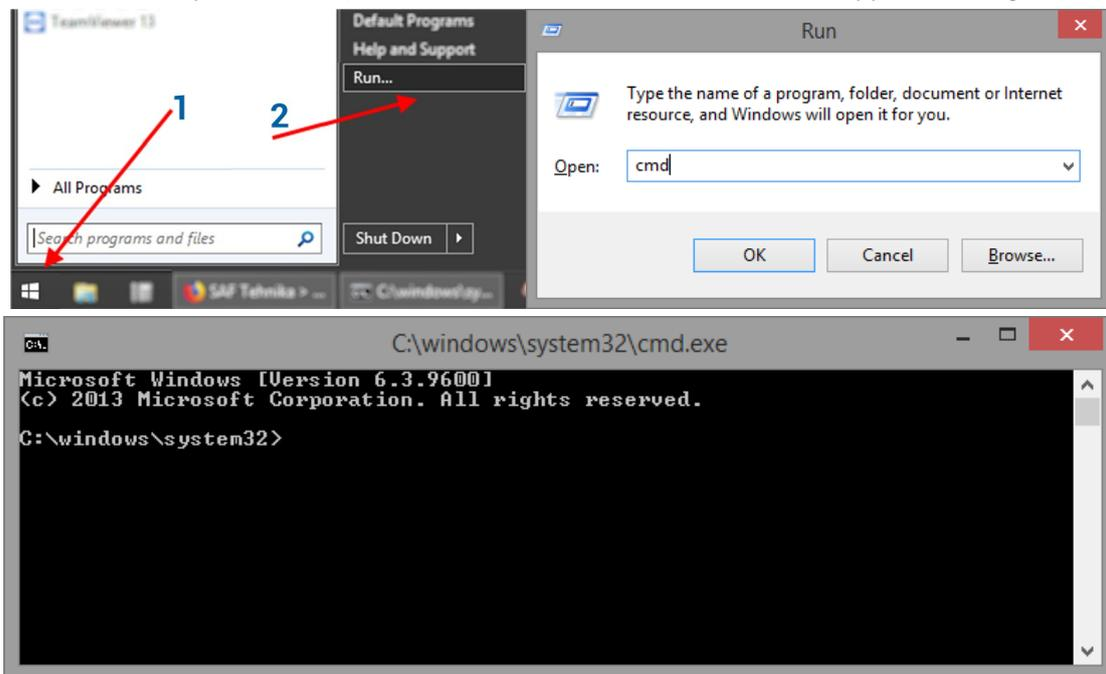

Figure 7-1 Windows CMD console
- 2) The application is started via the command prompt (Start menu→Run→type "cmd"→press ENTER). Command line console window should appear, see *Figure 7-1*.